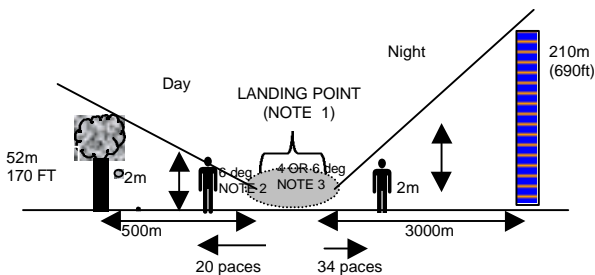

Figure 8-7: Landing point obstruction angles on approach and exit paths - day & night.
6. **By Day.** Within the selected approach and exit paths, the normal maximum obstruction angle to obstacle should not exceed six degrees as measured from the edge of the cleared to ground level area to a distance of 500 m (maximum obstacle height 52 m (170 ft)) (see Figure 8-7). This limit may be waived at the discretion of the pilot.
7. **By Night.** Normal ni approaches are aided (NVG). This para deals with unaided approaches. The selected approach and exit paths should contain a sector of not less than 16 degrees in azimuth as measured from the edge of the cleared to ground level area. The width of the approach and exit paths should not be less than the width of the area of the LS cleared to 0.6 m. Less than 50 m will not be acceptable, and more than 100 m is not nec. Within the selected approach/exit paths, the maximum obstruction angle should not exceed four degrees as measured from the edge of the cleared to ground level area to a distance of 3000 m (maximum obstacle height 210 m (690 ft)) (see Figure 8-7). However: